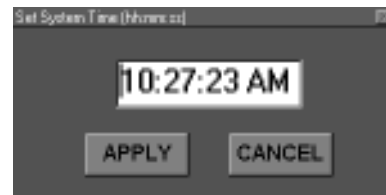

Figure 22: Set System Time
6. Refer to *Figure 22* for the SET SYSTEM TIME menu that will appear.